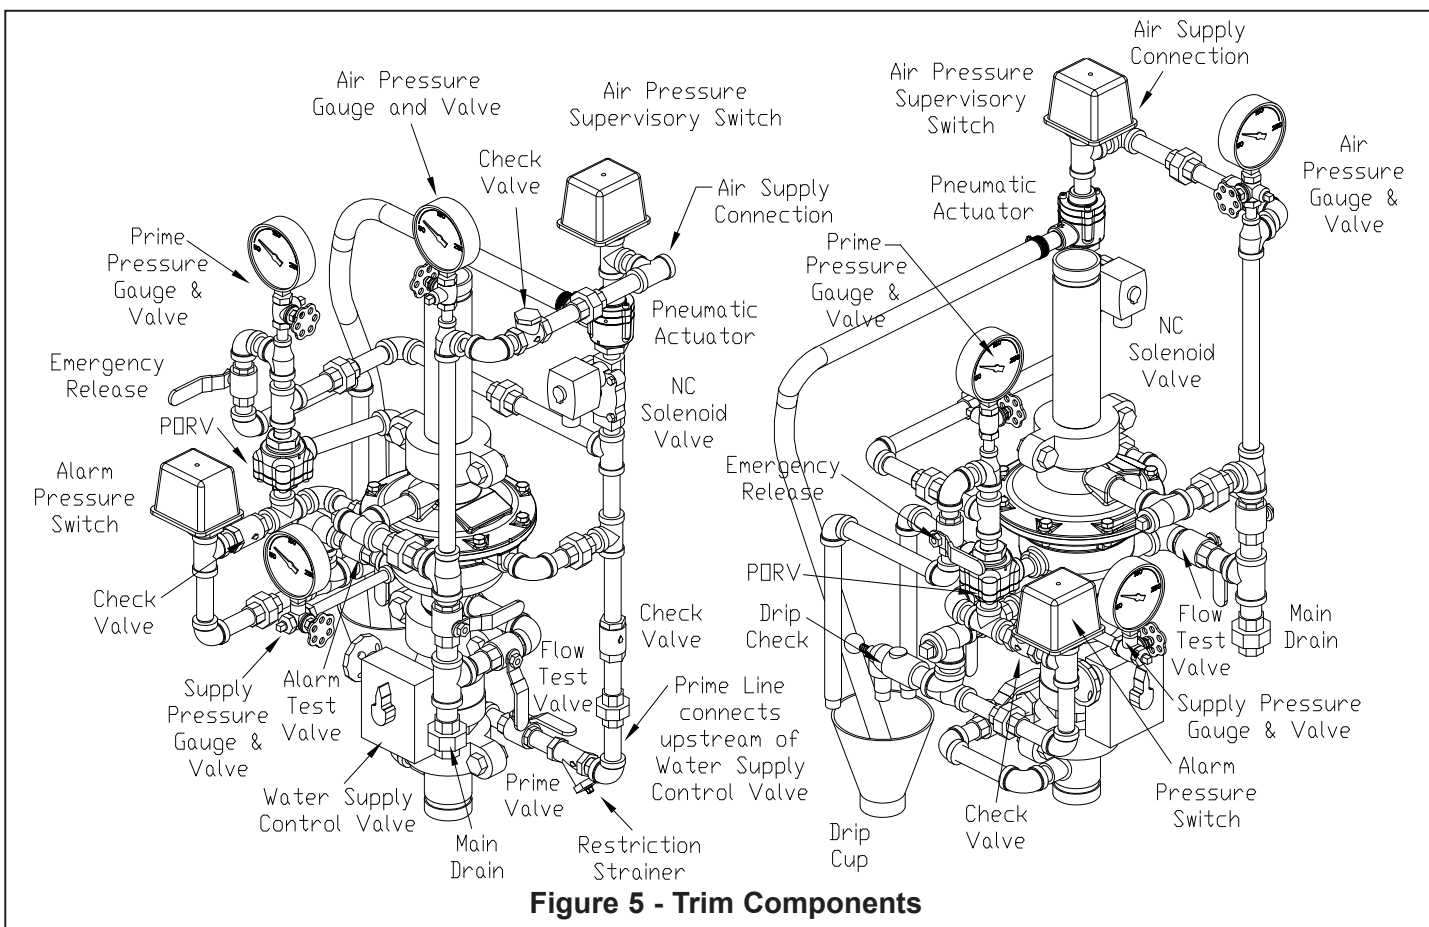

Figure 5 - Trim Components
F. Placing the Valve in Service: (Refer to Figure 5)
A. Low Air Pressure Alarm Test: (Refer to Figure 5)
B. Full Flow Trip Test: (Refer to Figure 5)
A. Taking the system out of service: (Refer to Figure 5)